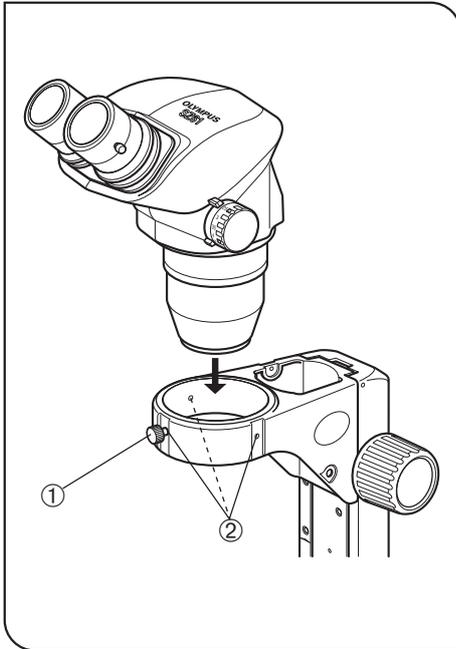

Fig. 13
1 Installing the Microscope Body (Fig. 13)
(Fig. 13)
- Loosen the body clamping knob ① and insert the microscope body gently.
- Ⓞ The body clamping knob ① can be attached to any of the three positions ② around the arm. After installation, attach the knob to a position so that the knob does not come in the way of the light source, etc.
- Ⓞ If you always perform observation from the side of the focus adjustment knobs, the microscope body can be installed in the opposite orientation to that shown in Fig. 13 (at the 180° rotated position).